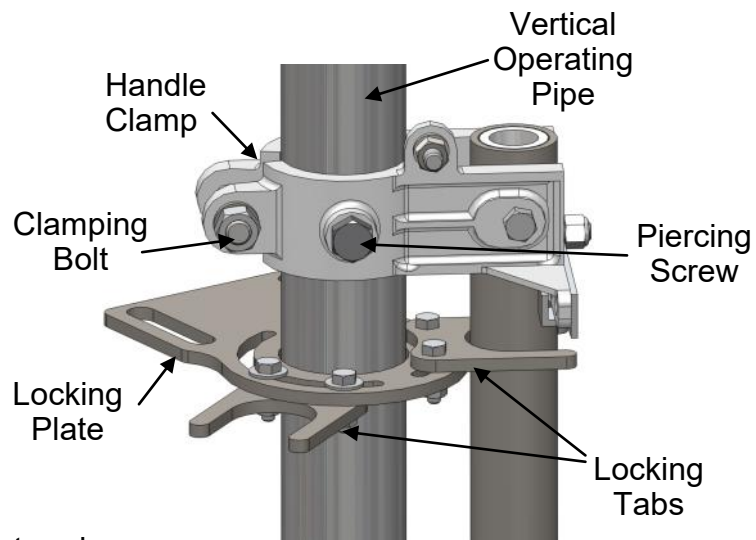

Figure 24 — Swing handle locked position
- 7. Move the closed locking tab so that it holds the handle as shown in Figure 24. Tighten the locking tab bolts.